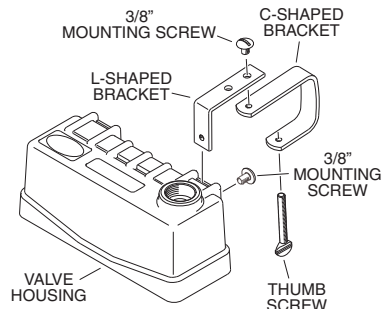

Figure 5
- Slide both L-shaped brackets into the valve housing as shown (see Figure 5).